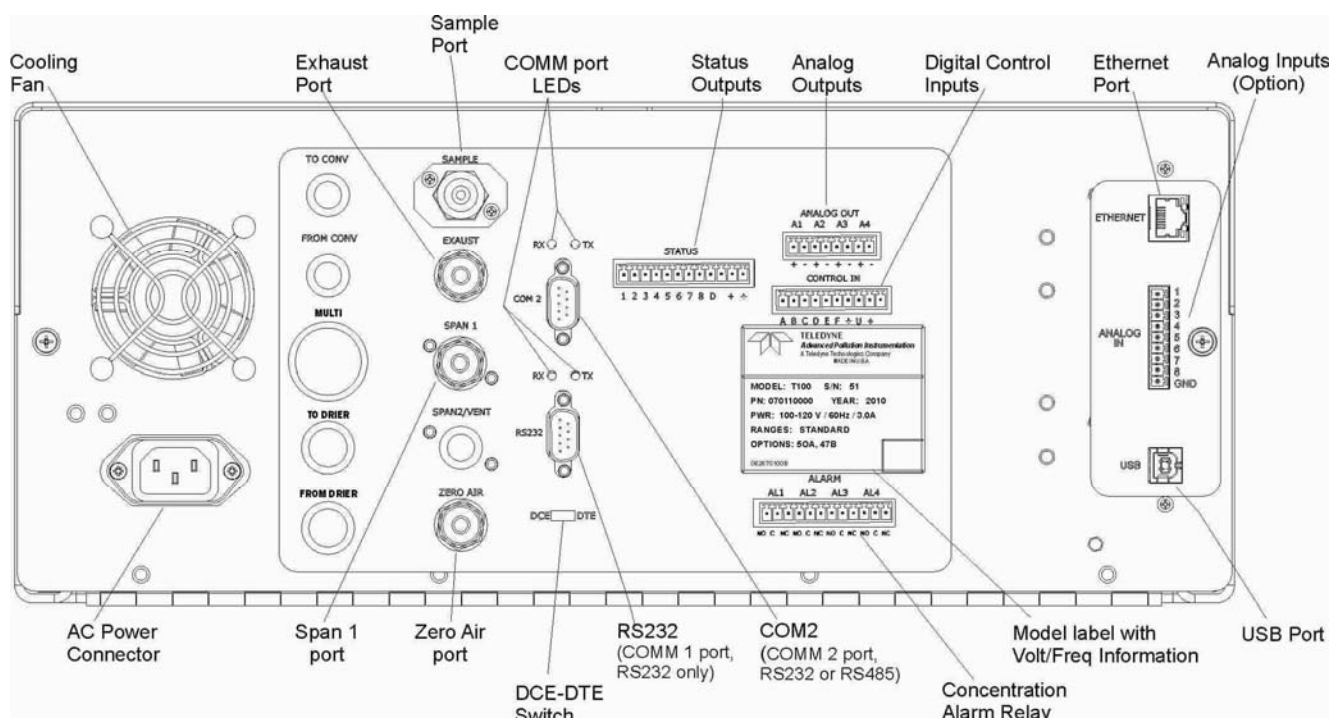

Figure 3-20: Rear Panel Layout with Z/S Valve Options (OPT 50A)
- SPAN GAS** Attach a gas line from the source of calibration gas (e.g. a Teledyne M700E Dynamic Dilution Calibrator) to the **SPAN1** inlet (see Figure 3-20). Use PTFE tubing; minimum O.D ¼".